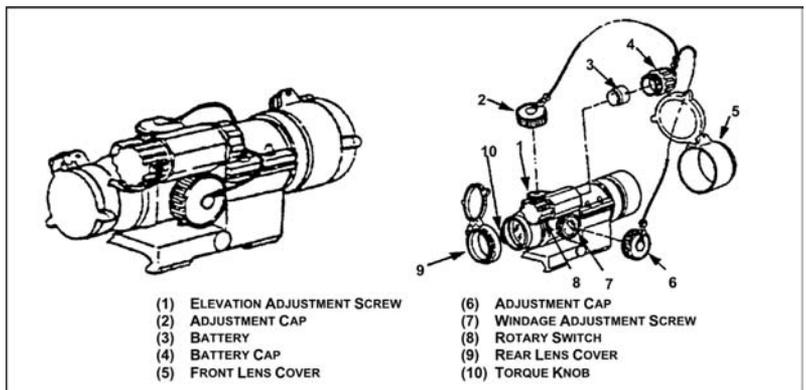

Figure 071-705-0003-1. M68, close combat optic
- a. Open the front and rear lens covers (figure 071-705-0003-1).
- d. If adjustment is required, remove adjustment screw caps from adjustment screws by turning them counterclockwise (figure 071-705-0003-1).